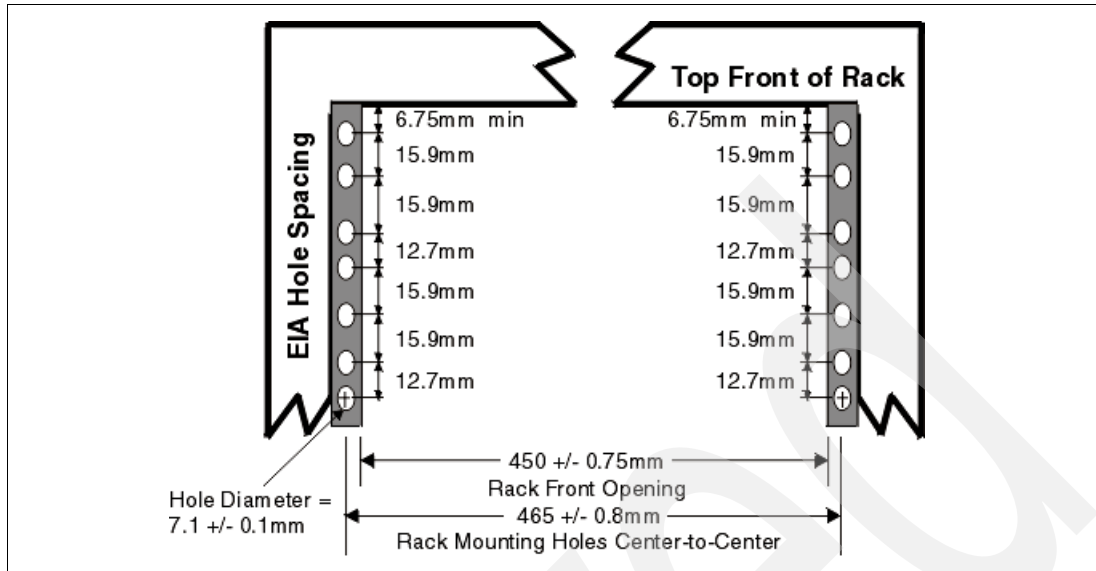
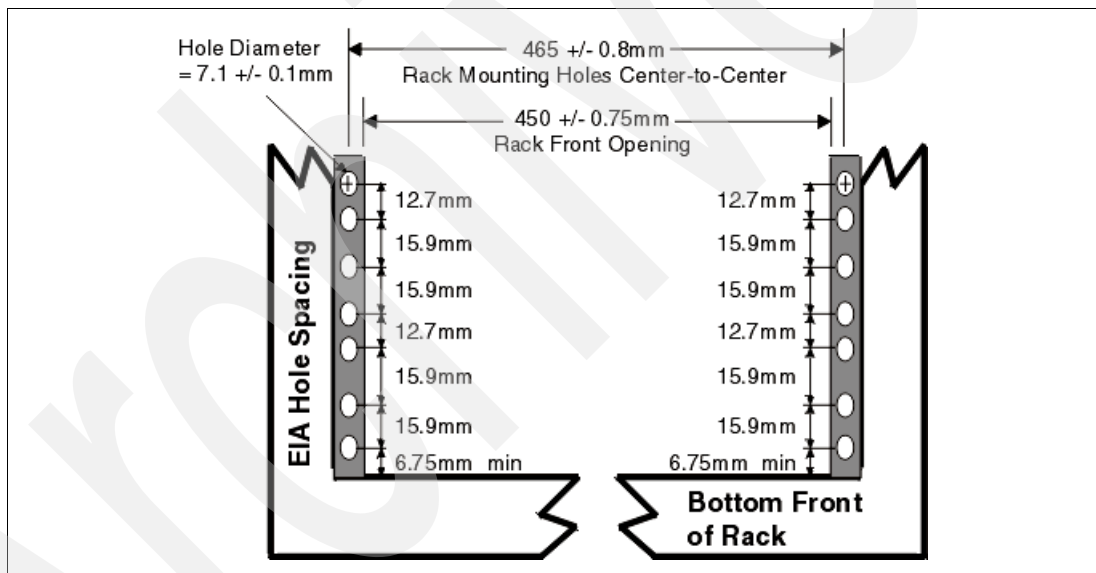

Figure 1-10 Rack specification dimensions, top front view
Figure 1-11 Rack specification dimensions, bottom front view
- ▶ The vertical distance between the mounting holes must consist of sets of three holes spaced (from bottom to top) 15.9 mm (0.625 in.), 15.9 mm (0.625 in.), and 12.67 mm (0.5 in.) on center, making each three-hole set of vertical hole spacing 44.45 mm (1.75 in.) apart on center. Rail-mounting holes must be 7.1 mm + 0.1 mm (0.28 in. + 0.004 in.) in diameter. See Figure 1-10 on page 59 and Figure 1-11 on page 59 for the top and bottom front specification dimensions.